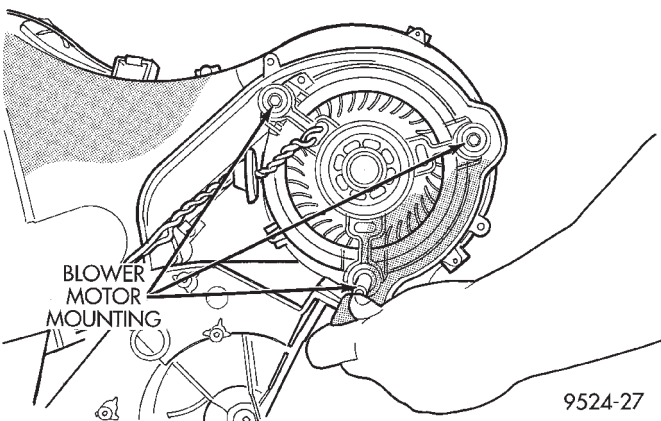
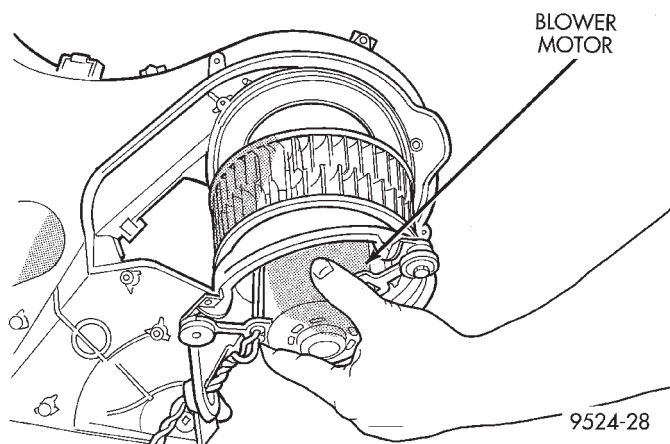

Fig. 49 Blower Motor Screws
Fig. 50 Blower Motor
(5) Remove blower motor screws. Remove blower motor from housing (Fig. 49) and (Fig. 50).